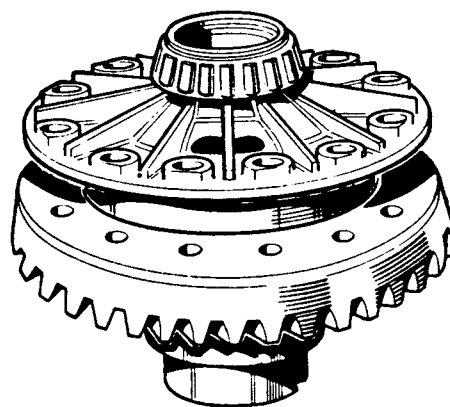

Fig J2.28
- (8) Refer to Fig J2.28. Remove the inner bearing cone from the pinion. Remover 18G47BK and press 18G47C.
- (7) Refer to Fig J2.28. Place the differential casing in position on the crownwheel.
- (8) Smear the threads of the fixing bolts with Lockite Studlock. Fit the bolts and tighten diagonally to 130 to 145 N.m.
- (9) Check the total indicated run-out on the crownwheel back face. This must not exceed 0,05 mm. If run-out is excessive, check the mating faces for dirt and damage; if necessary select a new radial position for the crownwheel.
- (10) Place the differential unit and the bearing cups and cones aside pending the subsequent 'Differential bearing adjustment' checks, (para 5).